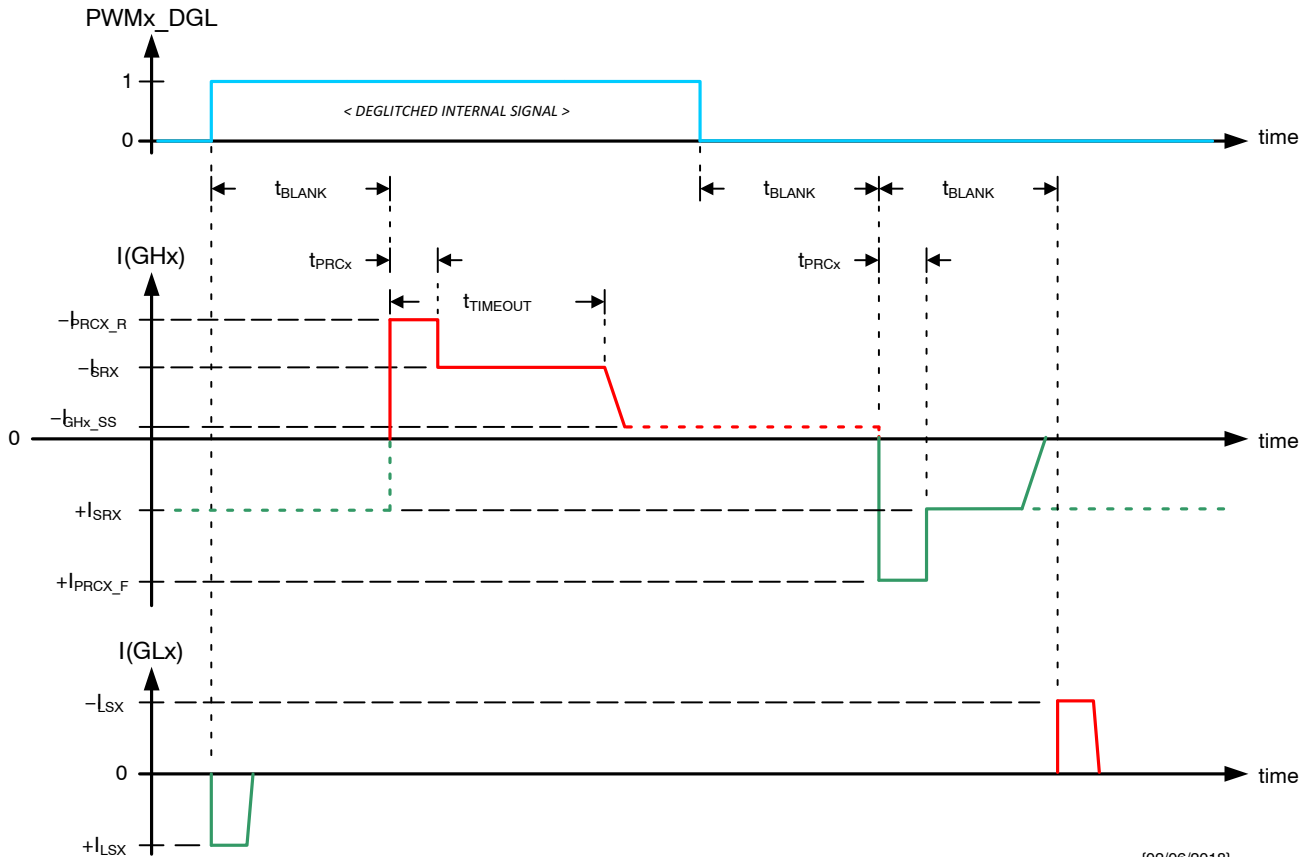
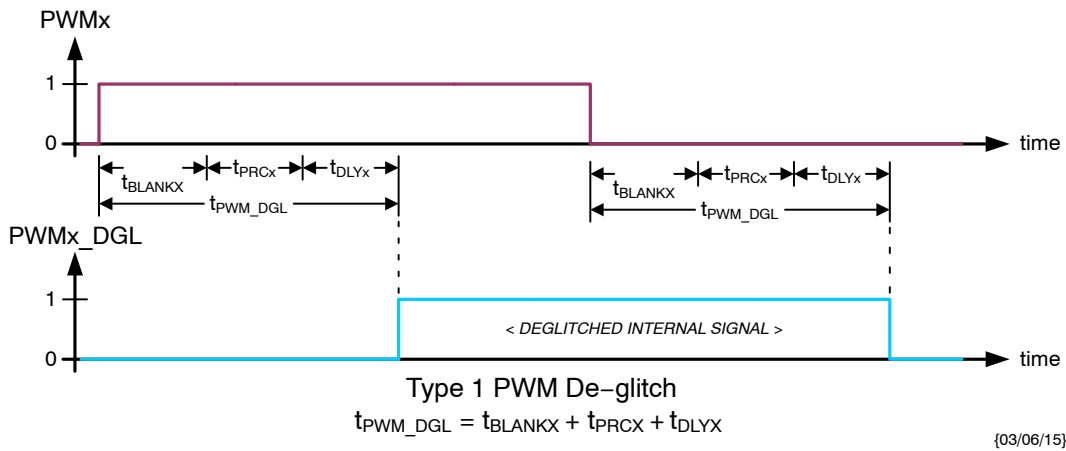
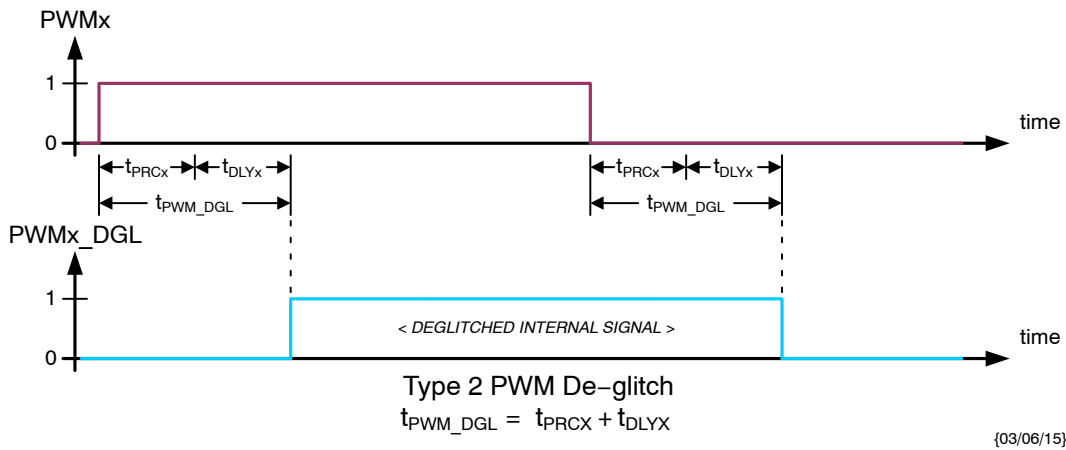
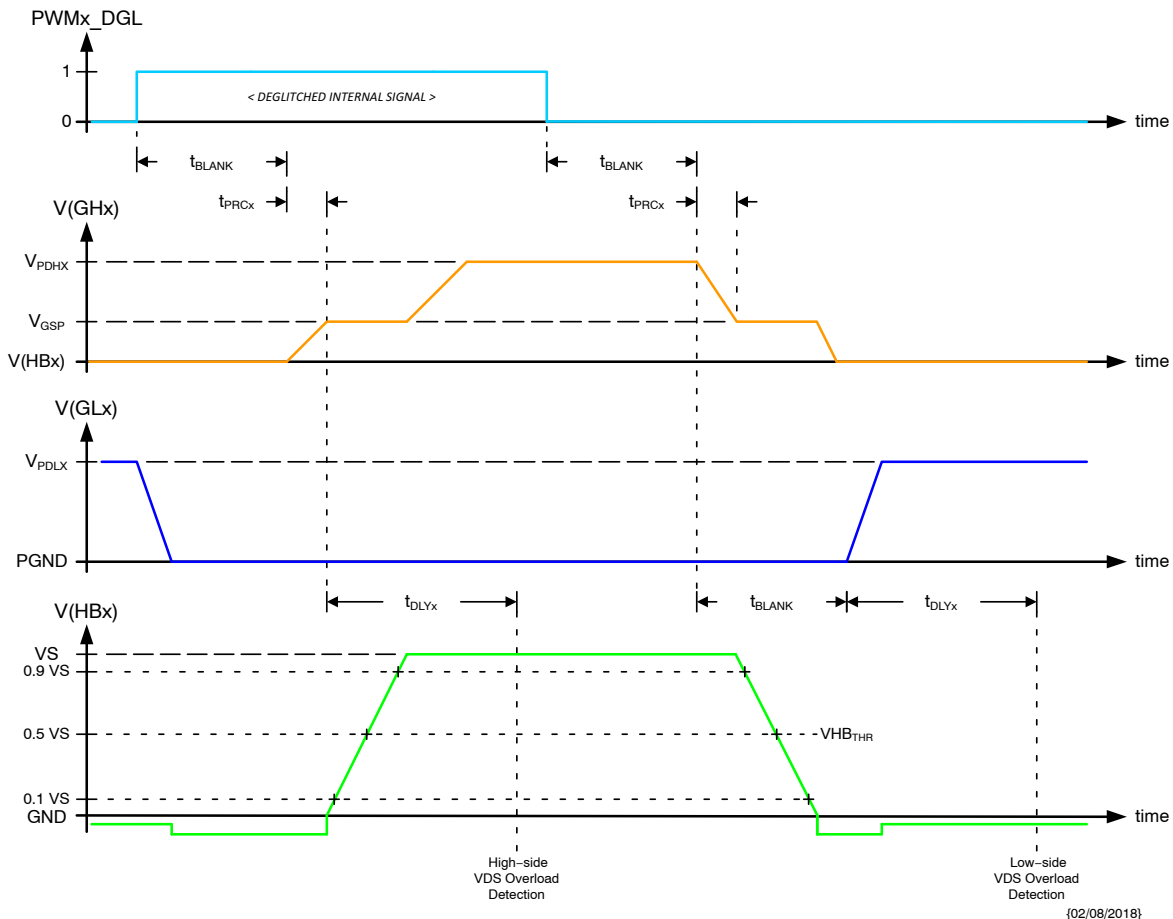

Figure 9. Gate Drive Current Evolution
Figure 10. Type 1 PWMx Input De-glitch – CR14.DGLx = 0
Figure 11. Type 2 PWMx Input De-glitch – CR14.DGLx = 1
Figure 12. HBx Output Switching in Half-Bridge Configuration
When multiple PWMx inputs are needed to be active, the scheduled PWM signals should be offset in time to avoid degradation of the VDS overload detection due to crosstalk (see § *Overload Protection*). The minimum offset should be based on the tPWM\_DGL times appropriate for the respective channels (see § *Switching Behavior of Half-bridge Drivers*, Figure 10 and Figure 11).
The external high-side NMOS switches are controlled with gate pre-charge and slew phases, while the external low-side switches are controlled via simple drive stages supplying a nominal 4x multiple of the selected high-side driver slew current (see Figure 9 and § *Electrical Characteristics: Pre-driver Slope Control*). The timing for the gate drivers is provided by the digital logic, where the key parameters can be programmed via SPI in order to adapt different MOSFET types and application switching speeds.
- adaptive PWM input de-glitch construction when in half-bridge configuration is selected by DGLx[6:0] bits (see Figure 10, Figure 11, Table 21 and Table 22).
In order to not overload the charge pump circuit in case of loss of VS or in case of a disconnected security switch, the steady state output current of the high-side gate drivers is limited to  $I_{GHX\_SS}$  after  $t_{TIMEOUT}$  (see  $I(GHx)$  in Figure 12 and § *Electrical Characteristics: Half-Bridge Pre-Driver Outputs*).
When operating in PWM mode, type 1 de-glitch is selected when CR14.DGLx = 0 (see Figure 10) and the adapted time is given by:
Type 2 de-glitch is selected when CR14.DGLx = 1 (see Figure 11) and the adapted time is given by:
When operating in PWM mode, the timing of the gate drivers is according to Figure 12.
In the pre-charge phase ( $V_{GHx} < V_{GSP}$ ) the GHx output delivers the selected rise ( $I_{PRCx\_R}$ ) or fall ( $I_{PRCx\_F}$ ) current for the selected time ( $t_{PRCx}$ ), and in the slew phase ( $V_{GSP} \leq V_{GHx} \leq V_{PDHX}$ ) the GHx output delivers the selected current ( $I_{SRx}$ ) for up to the gate drive timeout time ( $t_{TIMEOUT}$ ). After  $t_{TIMEOUT}$ , the GHx output delivers the timeout current ( $I_{GHx\_SS}$ ). The GLx output always delivers a multiple ( $I_{LSx}$ ) of the selected slew current (see Figure 9 and § *Electrical Characteristics: Half-Bridge Pre-Driver Outputs, Pre-driver Slope Control*).
- the PWMx\_DGL resulting from the channel's operating configuration (see § *Switching Behavior of Half-bridge Drivers*, Figure 10 and Figure 11);
The delay time  $t_{DLYX}$  is started after the adapted  $t_{PWM\_DGL}$  at the start of the switch activation (see Figure 10 and Figure 11, and V(HBx) in Figure 12). In the case of the high-side MOS, the delay time is started at the end of the pre-charge time  $t_{PRCX}$ . In the case of the low-side MOS, the delay time is started concurrent with the GLx turn-on current (see I(GLx) in Figure 9). At the end of time  $t_{DLYX}$  the switching node voltage is compared with the appropriate VDSTHR\_R or VDSTHR\_F overload detection threshold (see § *Electrical Characteristics: Half-Bridge Diagnostics*).